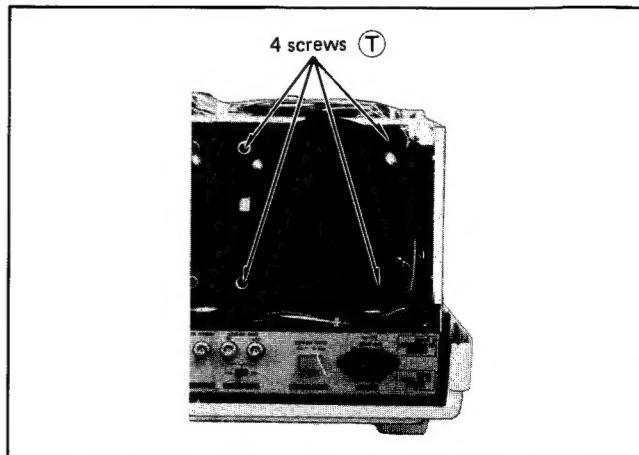

Fig. 14
- 8) Remove the 4 retaining screws **(T)** from the tube and draw it out shown in fig. 14.